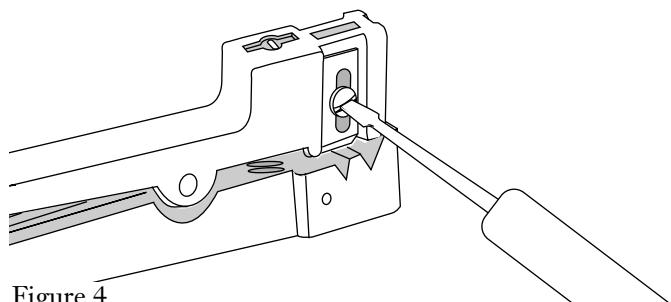

Figure 4
**Note:** The next step describes how to use a coaxial cable cutter to ring cut the outer sheath of the Zipcord subunits. Before using the cutter, make sure that it is properly adjusted. Use a small slotted screwdriver to adjust one of the blades on the side of the cutter so that it seats against the lower jaw but does not force the jaw open (Figure 4). Leave the blades on the front and other side of the tool fully retracted.